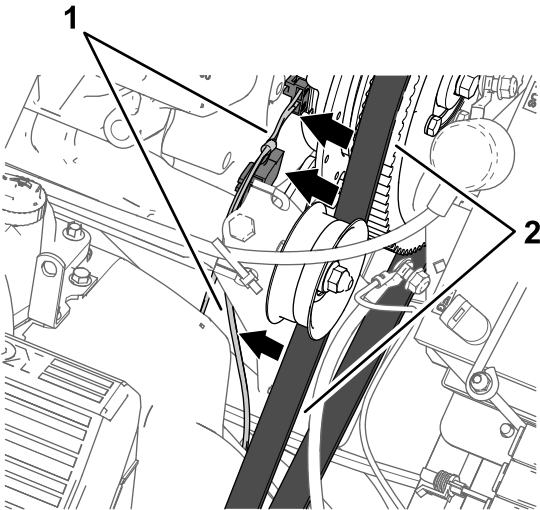

Figure 167
4. Route the wire-harness branch—84 cm (33 inches) against the engine and spray pump so that the harness has clearance from the alternator belt (Figure 167).